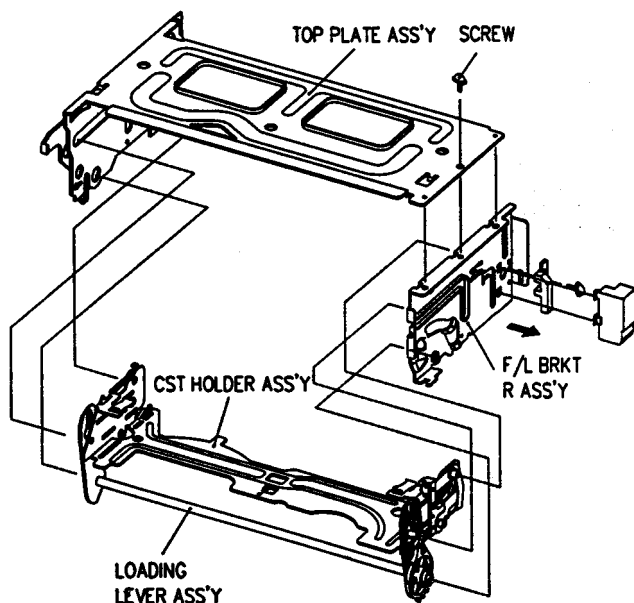

Fig. 13- Front loading mechanism disassembly
Front Loading Mechanism disassembly (Fig. 13~17)
3. Remove the cassette holder assembly (Fig. 13)
4. Remove the prism cap and remove one (1) screw hold-